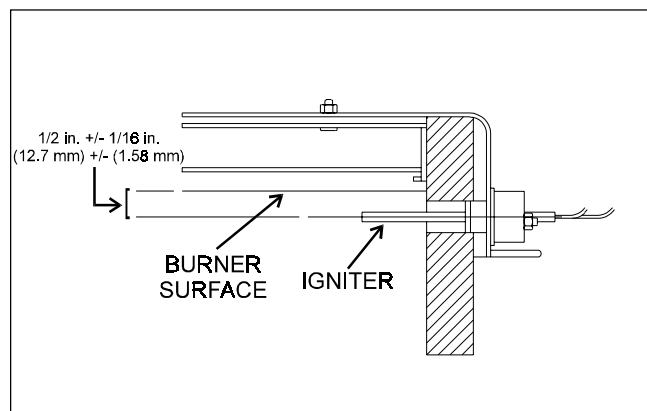

Figure 16. Igniter Installation
8. Install the new igniter so that the black igniter surface doesn't touch the chassis or refractory material when it is in place. The igniter should be $1/2$ inch $\pm 1/16$ inch (13 mm ± 1.58 mm) from the burner surface and parallel to it (see Fig. 16). Make sure there is no leakage from the combustion chamber. A small leak of hot gas will erode the leak area, make it larger, and cause a problem.